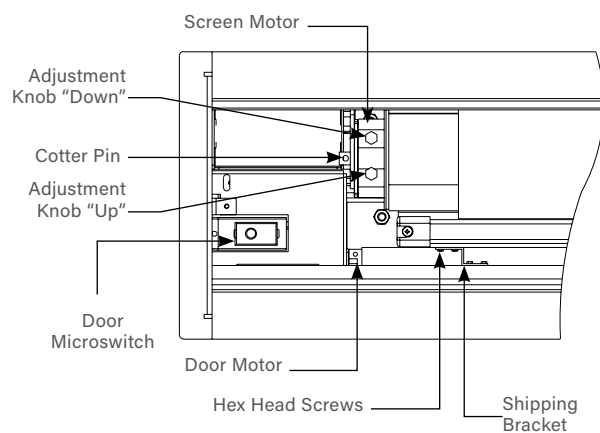

Figure 2
3. Place the roller assembly into the case with the motor on the left side. The limit switches should be facing down. Line up the square pin on the motor with the square hole in the bracket. Secure with cotter pin. See figure 2.
6. Remove shipping brackets by removing the hex head screws from aluminum slat and case. Slat should move freely. See figure 2. (Only if the roller assembly is preinstalled.)
2. When the screen stops, turn the "down" limit knob (Fig. 2) one-quarter turn counterclockwise. Test by raising picture surface approximately two feet, then lower again. Repeat until desired picture surface position is attained.
3. Turn the "down" limit switch (Fig. 2) one-quarter turn clockwise. Test by raising picture surface approximately two feet, then lower again. Repeat until desired picture surface position is attained.